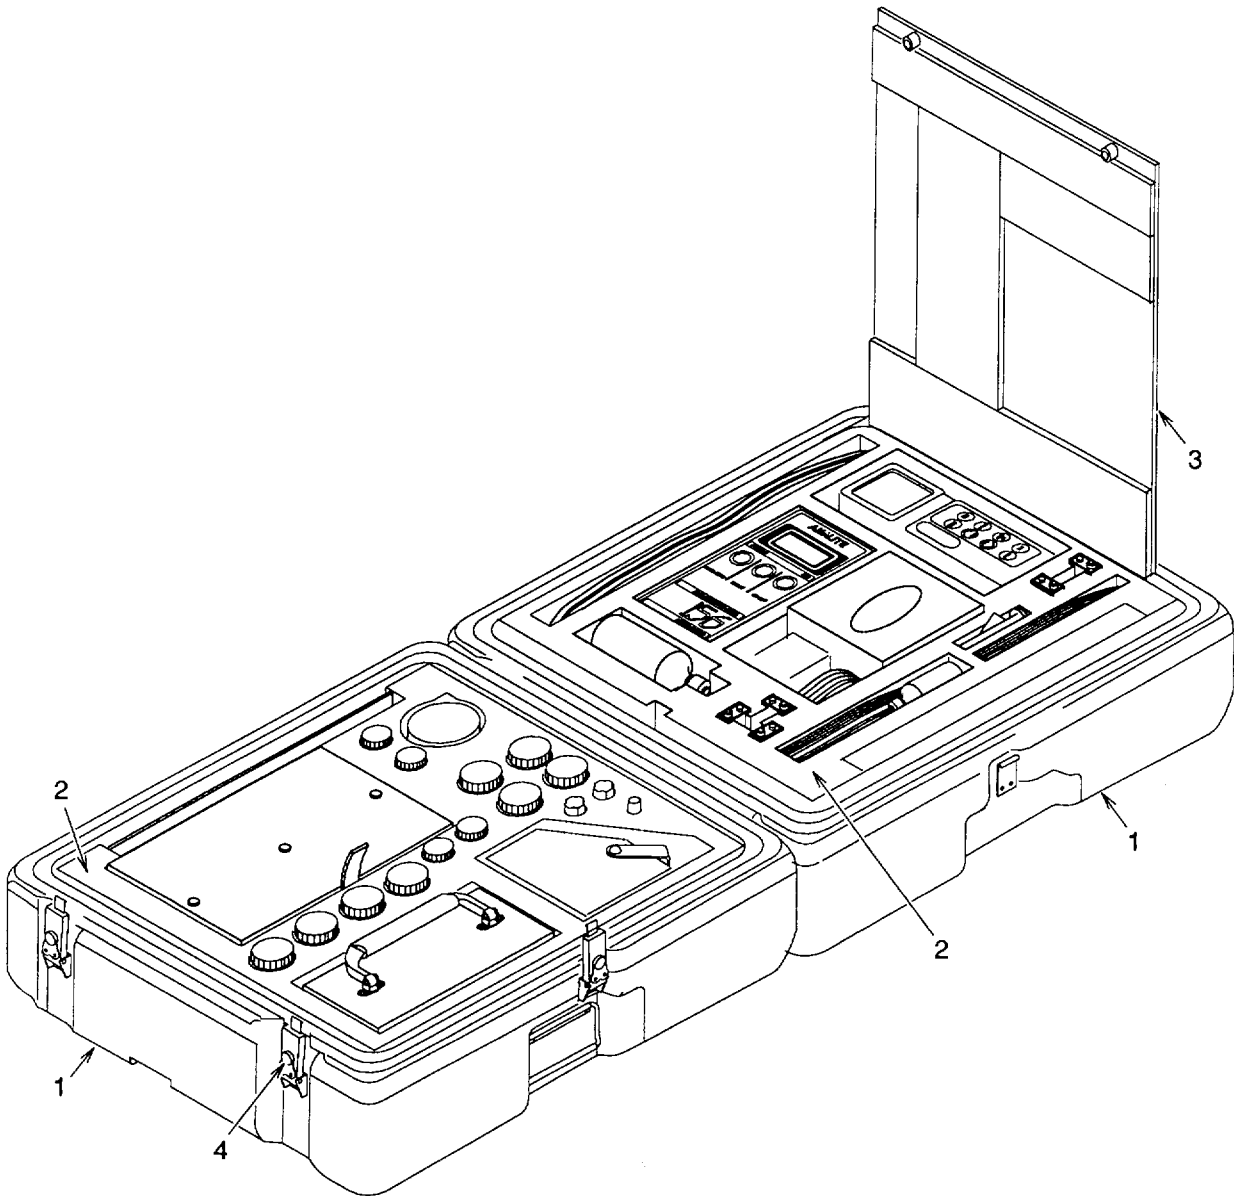

Figure 3-5. Carrying Case
a. Inspection. See figure 3-5.
- (1) Check case (1) for any visible damage. If damaged, notify supervisor.
- (2) Open case (1) and remove all components. Note location for repacking.
- (3) Check foam liners (2) and insert divider (3) for any visible damage. If damaged, notify supervisor.
- (4) If case (1) and liner (2) are not damaged, repack all components as noted during removal. Close and secure case.